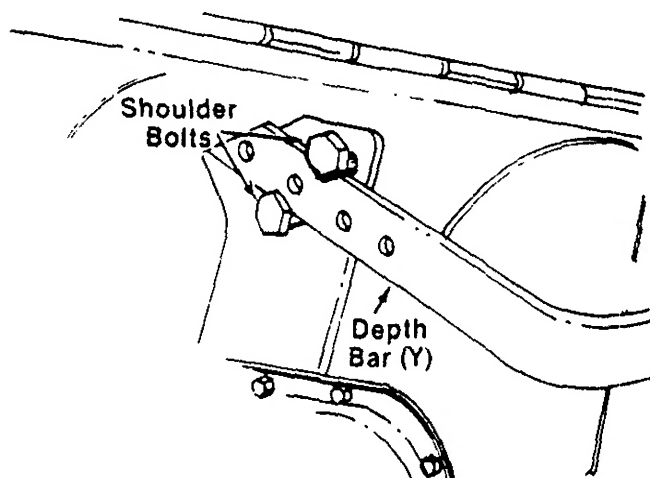

FIGURE 3.
1. Raise the tine shield hinge flap assembly. Insert the depth bar assembly (Y) between the two shoulder bolts and up through the tine shield assembly as shown in figure 3.
For clarity, figure 3 was taken with tiller raised on end. It is not necessary to raise the tiller.